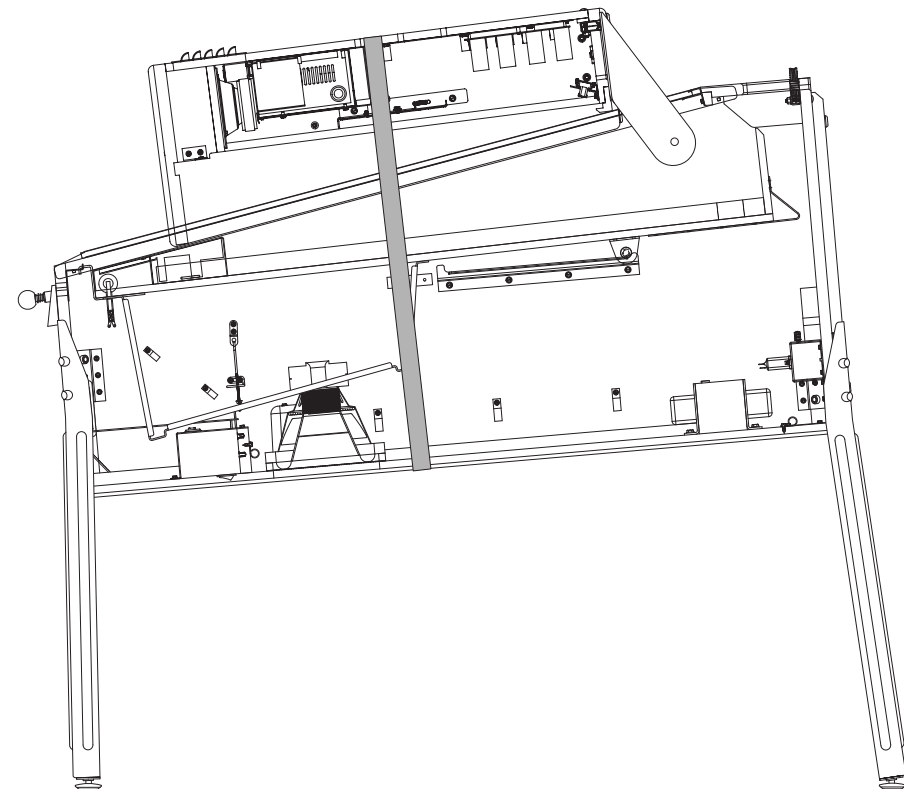

Figure A16. Transport game with the backbox lowered and secured.
**Note:** Before transporting the game, lower the backbox (figure A16). Insert the 5/16" hex key into the hole at the base of the backbox and turn it a full 270 degrees CCW. Ensure that cables and wires in the neck of the machine do not get pinched or pulled taut as the backbox is laid down. Place a large piece of cardboard (or the piece of foam used when the game was shipped) between the top lip of the backbox and the lower cabinet to protect the cabinet side rails. Tie or strap the backbox securely to the cabinet to prevent it from bouncing during transit.